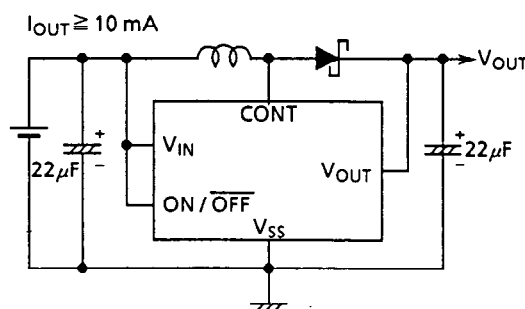
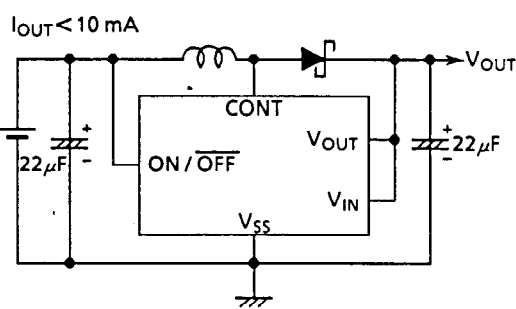

Figure 12
Figure 13
The difference between Figures 12 and 13 is a V_{IN} connection. The connection to be used depends on the purpose. The connection shown in Figure 12 is suitable for high output current (≥ 10 mA). The connection shown in Figure 13 is suitable for low output current ($I_{OUT} < 10$ mA) because minimum operating supply voltages is reduced. (See the supply voltage-output voltage characteristics on the next page. Use RCH855-47 μ H manufactured by Sumida Electric for the coils and D1NS4 for the external diode.)
$V_{IN} \neq V_{OUT}$ (in the circuit shown in Figure 12)
$V_{IN} = V_{OUT}$ (in the circuit shown in Figure 13)
- Do not apply a supply voltage of less than 0.9 V at V_{IN} in the standard circuit shown in Figure 12. If a voltage of less than that is applied, the input current may increase rapidly. The input current may increase rapidly in the application of a low supply voltage and a low load current ($I_{\text{OUT}} \approx 20 \mu\text{A}$) when the S-8436 series is used.